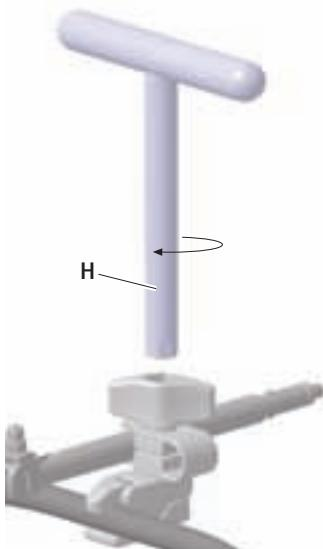

Fig. 8
- ▶ Tighten fastening nut **1** until the clamp is fully closed. If necessary tighten further with T-wrench **H**, see Fig. 8.